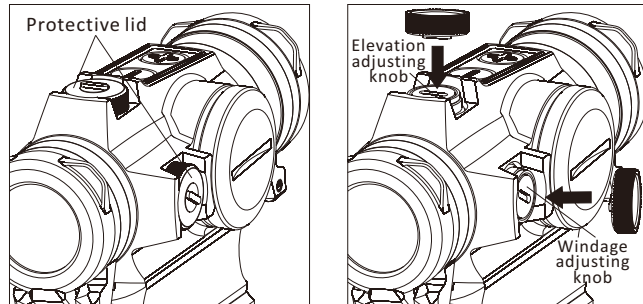

Fig 6
1. The elevation adjustment turret is on top of the sight, the windage adjustment turret is on the right side (see Fig 6). The sight has been factory adjusted for approximate zero.
2. The screw driver tool on the protective cap can be used for zeroing adjustment (see Fig6). See label inside cap.
3. First open the protective cap (see Fig6), position slot type screwdriver on the slotted screw, then rotate the screw. Each click is equivalent to 0.5 MOA value.